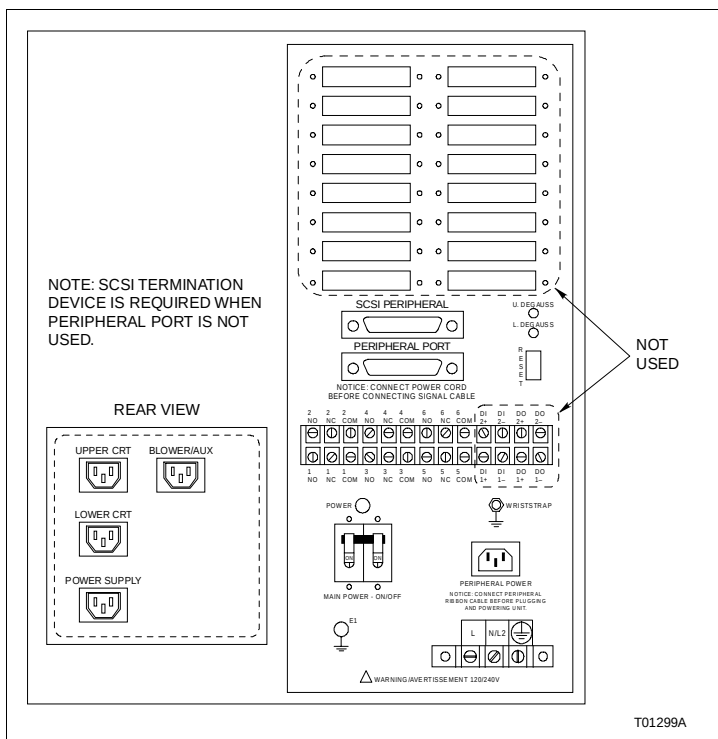

Figure PR28-1. PEP
- ☐ 3. Label and remove all cables from the front of the PEP (Fig. PR28-1).